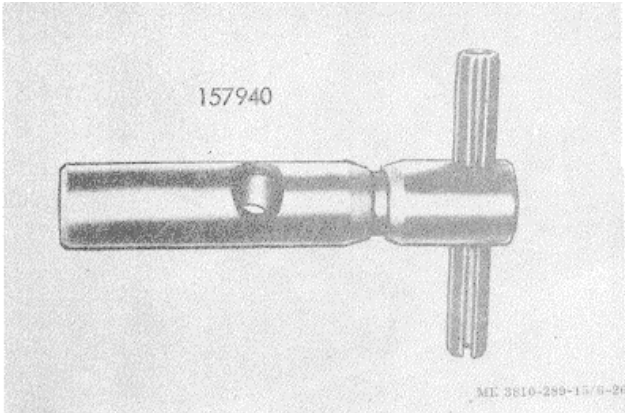

Figure 3-27. Current PT (type G) throttle shaft.
(6) Throttle shaft (fig. 3-27). Throttle shafts vary with applications. Replace with identical throttle shaft, if replaced, table 2-2.